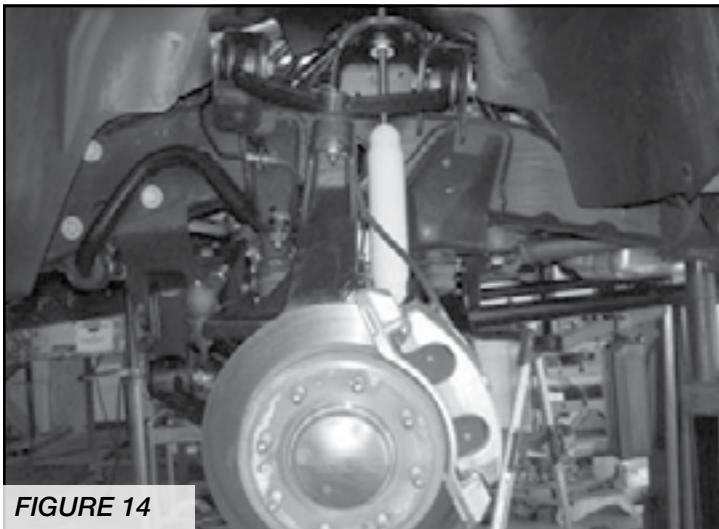

FIGURE 14
28. Install the rotor and the small bolt retaining the rotor and torque to 12 ft-lbs. Install the caliper and torque to 220 ft-lbs. **SEE FIGURE 14**